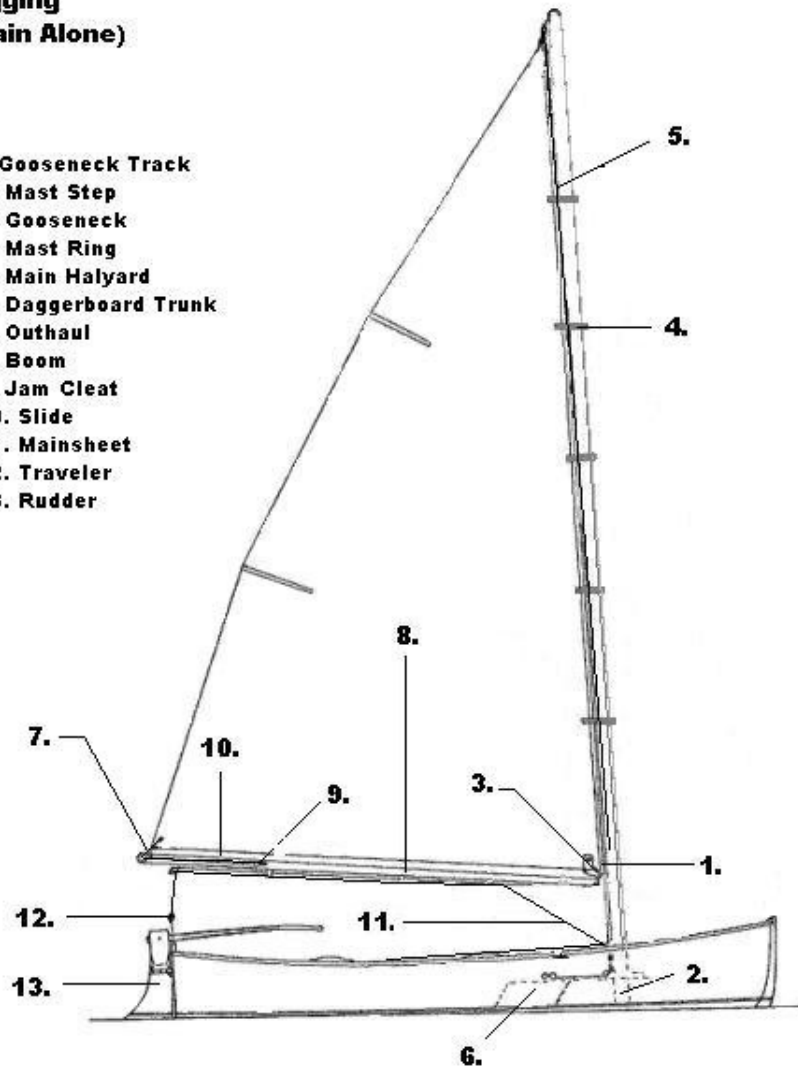

Fig. 1. Sailor's Knot
- 1) Slip the two sections of the mast together. The top section has a nylon cap with a *halyard block*; the lower section has the gooseneck track. (1)
- 3) Insert the mast into the mast step (2) on the boat. (This is called “stepping the mast.”)
- 4) Install the gooseneck (3) on the gooseneck track on the *mast*. Lock it in place using the thumbscrew on the bottom of the gooseneck.
- 5) Affix the sail to the mast by first inserting the gooseneck tack pin into the grommet at the *tack* of the sail, and then snap each mast ring (4) around the mast and through the grommets on the *luff* of the sail. (Affixing the sail to the mast is called “bending the sail.”)
- 6) Raise the sail by tying one end of the *halyard* (5) to the top of the sail and pulling on the free end. The free end of the *main halyard* will go through a *block* at the base of the mast and then to a quick-release cleat on the daggerboard trunk (6). The *halyard* will fasten to a black nylon cleat mounted on the mast if your boat is equipped with a *jib*.
- 7) Tie the *outhaul* line (7) to the grommet at the back of the sail, lead through the *fairlead* at the end of the *boom* (8), then forward to the jam cleat (9). Don’t pull it too tight. The *foot* of the sail should have some curvature. The 5/8” stainless steel slide (10) must be on the track to allow the sail to have the correct shape.
- 8) Tie the end of the mainsheet (11) to the brass ring on the *traveler* (12) using a *Sailor’s Knot* (*Fig.1*). Lead it up through the *block* at the back of the boom, then forward on the boom to the front *block*, then down to the *block* that sits atop the daggerboard trunk (6), and finally back to the cleat.
- 9) Install the rudder (13) and daggerboard (14).